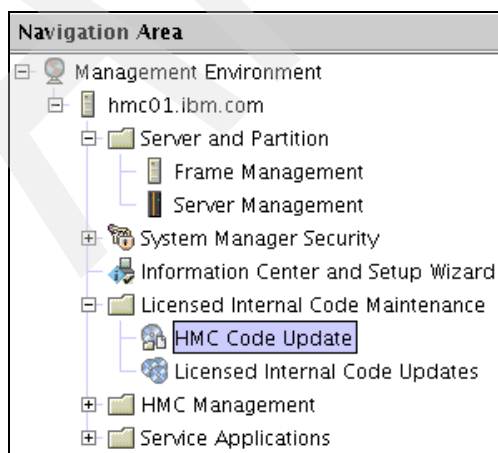

Figure 9-41 Navigation Area window, HMC Code Update
2. In the Navigation area, double-click the HMC Code Update icon (Figure 9-41).